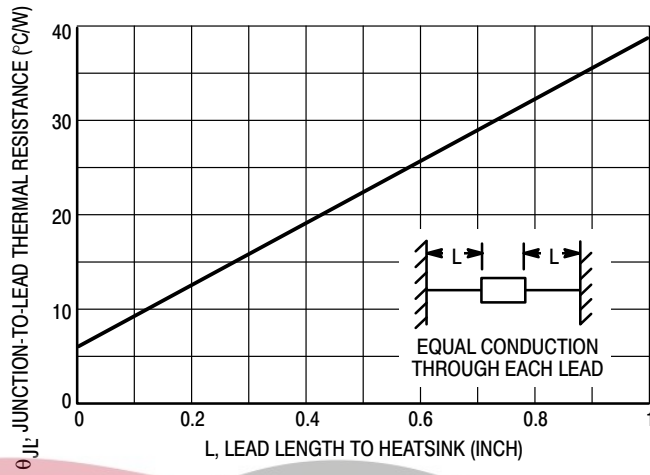
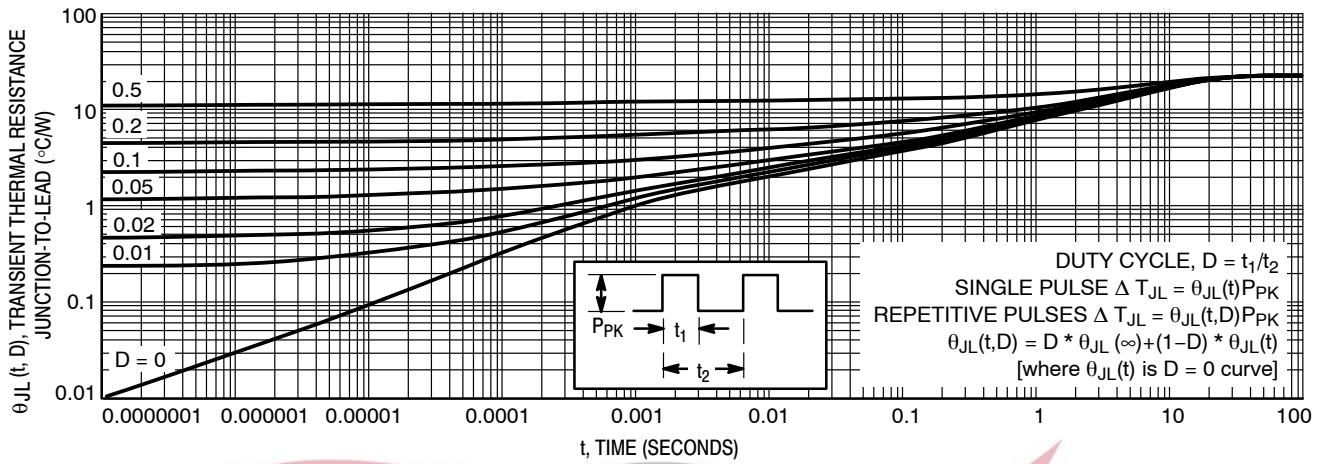
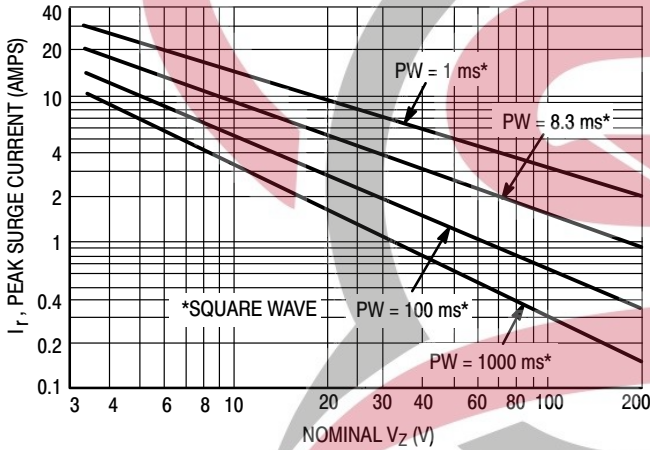
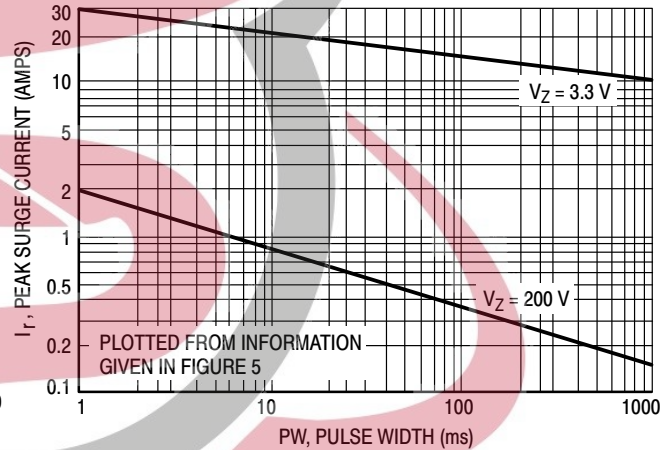

Figure 1. Typical Thermal Resistance
Figure 4. Typical Thermal Response
Figure 5. Maximum Non-Repetitive Surge Current
Figure 6. Peak Surge Current versus Pulse Width
- SURGE CURRENT ( $I_R$ ):** Surge current is specified as the maximum allowable peak, non-recurrent square-wave current with a pulse width, PW, of 8.3 ms. The data given in Figure 5 may be used to find the maximum surge current for a square wave of any pulse width between 1 ms and 1000 ms by plotting the applicable points on logarithmic paper. Examples of this, using the 3.3 V and 200 V zener are shown in Figure 6. Mounting contact located as specified in Note 2 ( $T_A = 25^\circ\text{C} + 8^\circ\text{C}, -2^\circ\text{C}$ ).
- SURGE CURRENT ( $I_R$ ):** Surge current is specified as the maximum allowable peak, non-recurrent square-wave current with a pulse width, PW, of 8.3 ms. The data given in Figure 5 may be used to find the maximum surge current for a square wave of any pulse width between 1 ms and 1000 ms by plotting the applicable points on logarithmic paper. Examples of this, using the 3.3 V and 200 V zener are shown in Figure 6. Mounting contact located as specified in Note 7 ( $T_A = 25^\circ\text{C} + 8^\circ\text{C}, -2^\circ\text{C}$ ).
$\Delta T_{JL}$  is the increase in junction temperature above the lead temperature and may be found from Figure 4 for a train of power pulses or from Figure 1 for dc power.
Data of Figure 4 should not be used to compute surge capability. Surge limitations are given in Figure 5. They are lower than would be expected by considering only junction temperature, as current crowding effects cause temperatures to be extremely high in small spots resulting in device degradation should the limits of Figure 5 be exceeded.